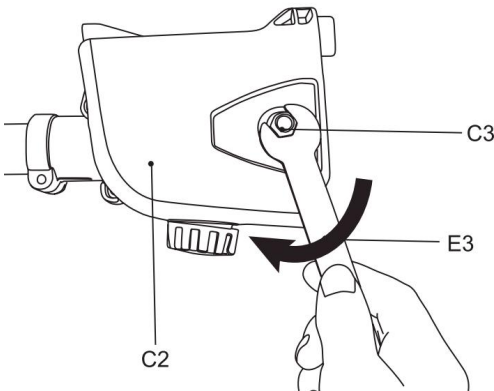

Fig. 12
8) Refit the cover (C2), fit the rear of cover then front, ensure pin is located in position. Slightly tighten the remaining nut (C3) by using the assembly wrench (E3) (Fig. 12). Do not tighten the nuts completely as saw chain tensioning is required first.